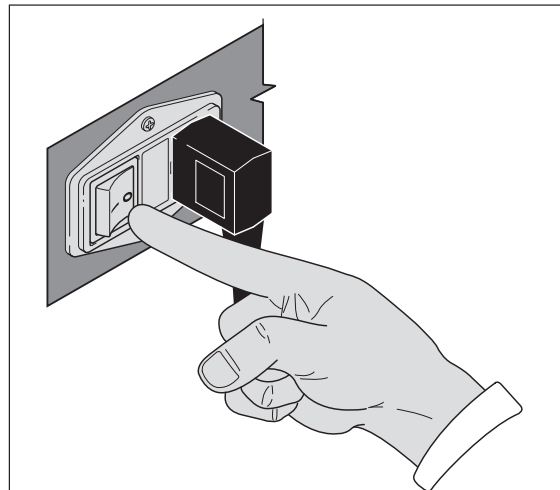

Figure 6-4
4. Set the main switch to the ON position (I) (Figure 6-4). At this point, the ON lamp will light to indicate that the machine is on.